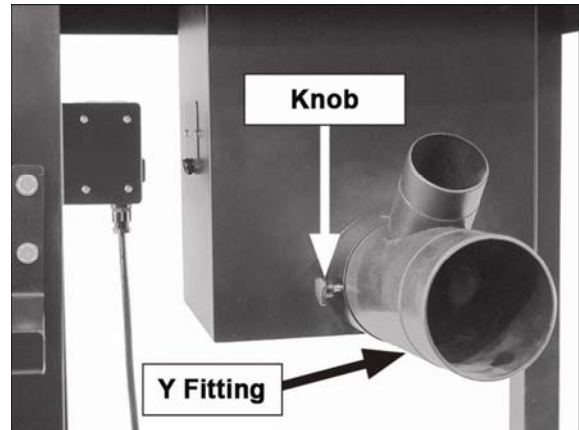

Figure 2 Y Fitting attached to dust port.
- 2.) Install the Y fitting (see figure 2) on dust port and secure in place with (1) 1/4-20 x 1/2 knob bolt.